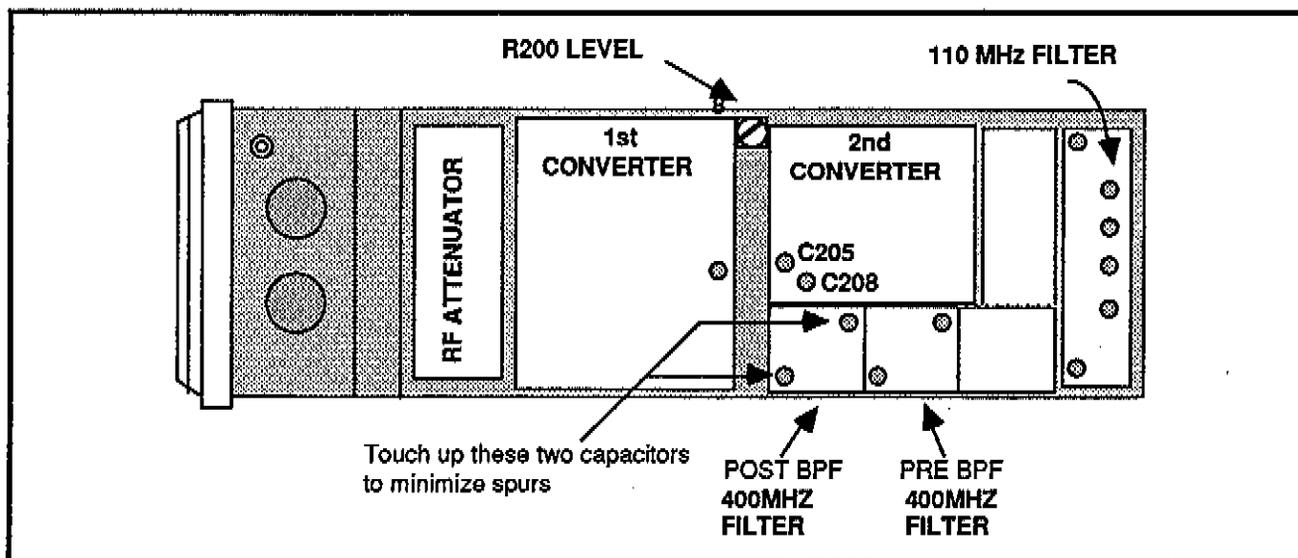

Figure 5-13. RF Mother board and 2nd Converter adjustment locations.
Enable the calibrator signal, and tune a marker to center screen. Adjust C205 and C208 (see Figure 5-13) for maximum signal amplitude and minimum 20 MHz spur and other spurs.
Check for spurs by doing performance check step 12 in Section 3. If the spurious response check fails, readjust C205 and C208, and touch up the second 400 MHz Filter by adjusting the capacitors shown in Figure 5-13.
b. Adjust PRE BPF capacitors for maximum signal amplitude. See Figure 5-13 for the location of adjustments.